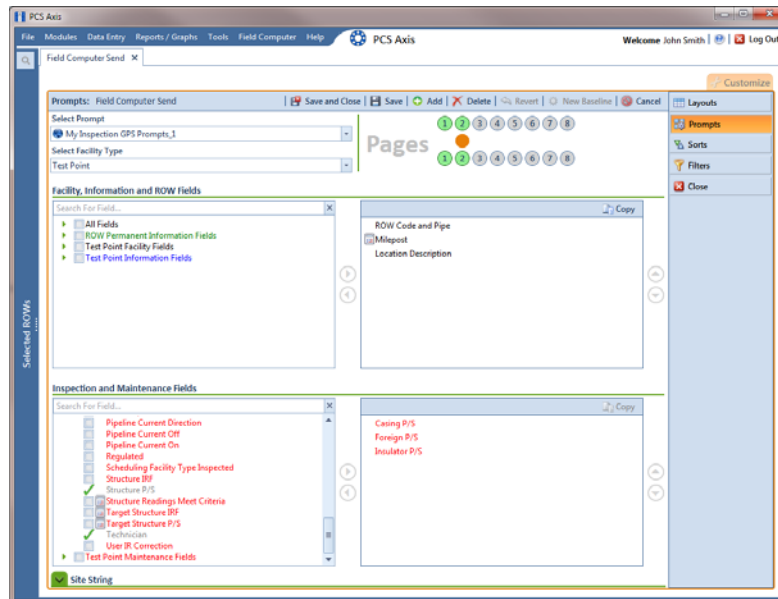

Figure 8-34. Prompts
- 16 If you have multiple pages of prompts, clicking a page number icon displays prompts for the selected page. For example, clicking  displays prompts set up in page 2 as shown in the following example (Figure 8-34).